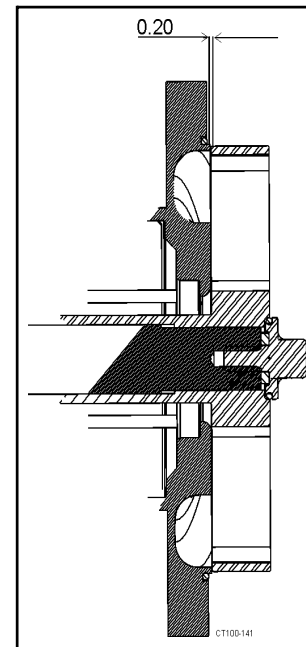

Figure 29 - Place Shims Between Impeller and Backplate
4. Temporarily place .020" shims 180 degrees apart between impeller and backplate to preset clearance. **Remove shims before final assembly.** (Figure 29).